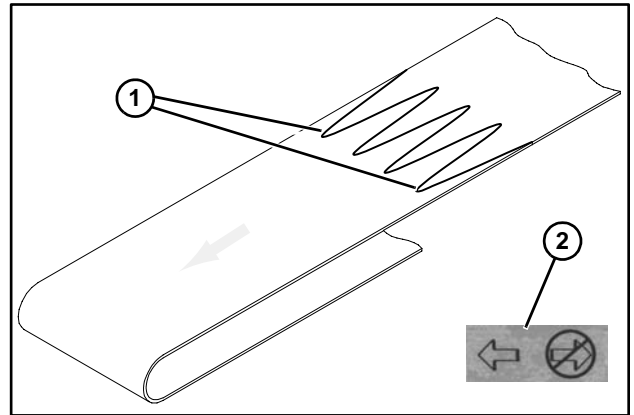

Figure 36
2. Orient belt so splice leading fingers (**Figure 36, item 1**) point in the direction of belt travel as identified by the conveyor directional label (**Figure 36, item 2**).